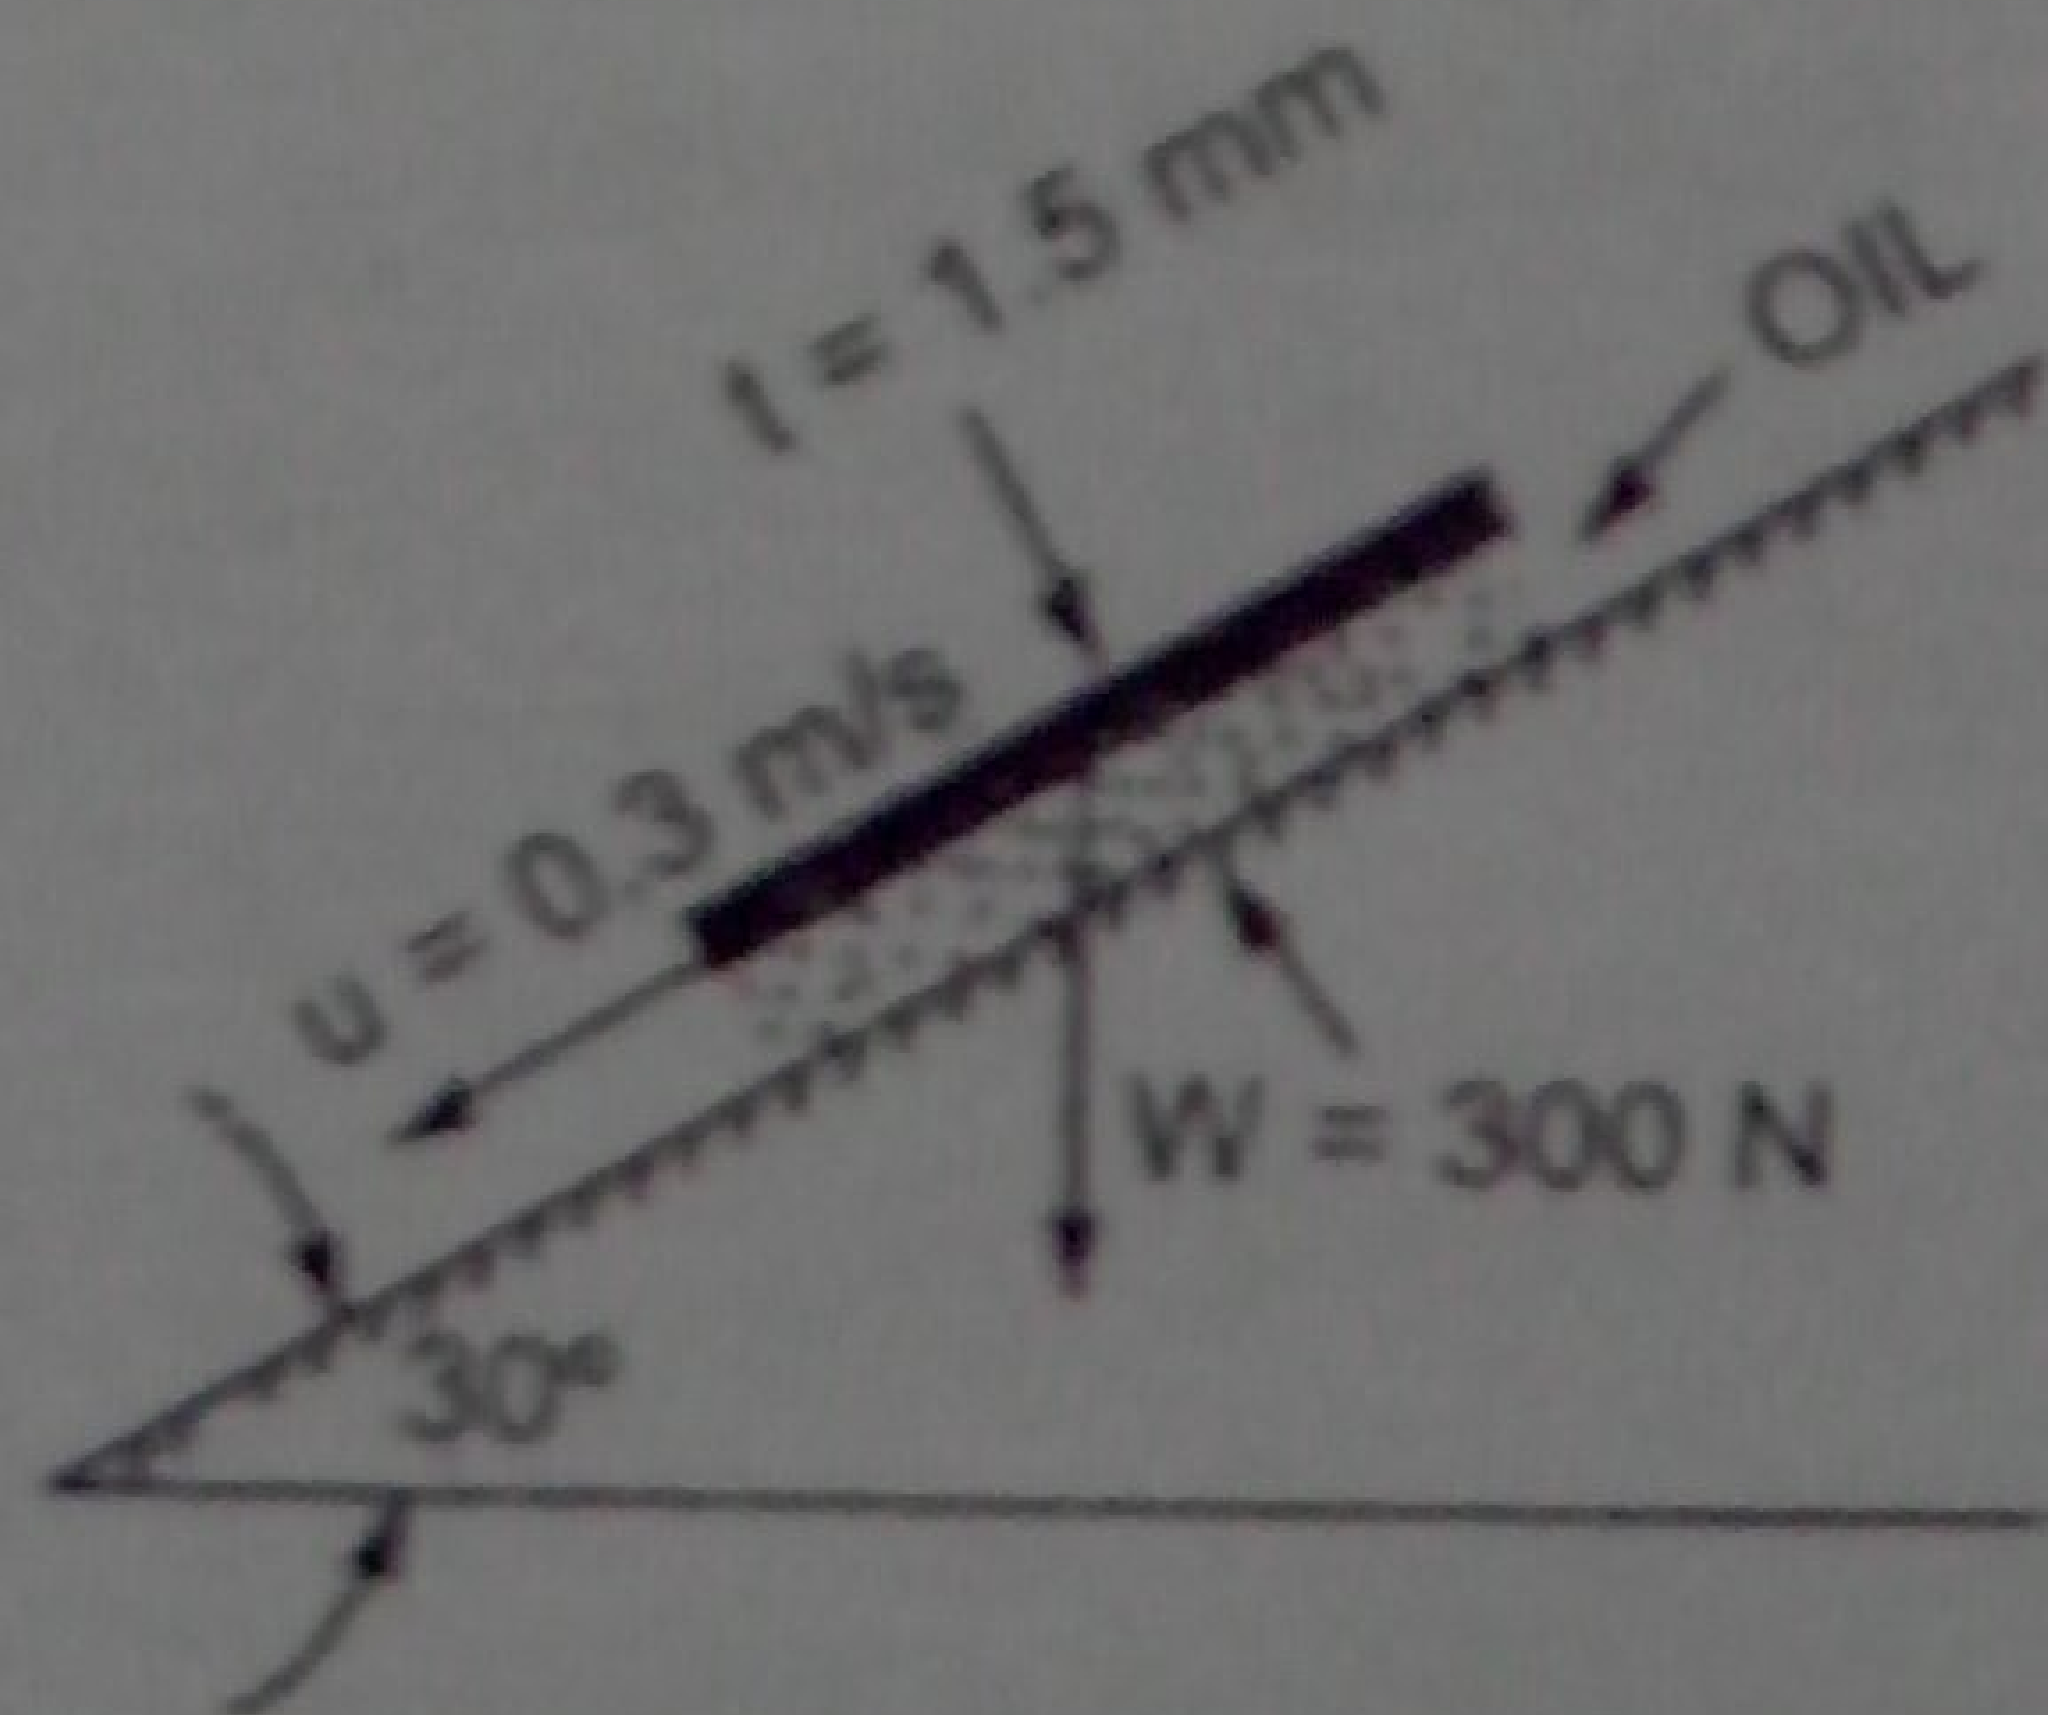

Fig. 1.4
**Problem 1.7** Calculate the dynamic viscosity of an oil, which is used for lubrication between a square plate of size 0.8 m  $\times$  0.8 m and an inclined plane with angle of inclination  $30^\circ$  as shown in Fig. 1.4. The weight of the square plate is 300 N and it slides down the inclined plane with a uniform velocity of 0.3 m/s. The thickness of oil film is 1.5 mm.